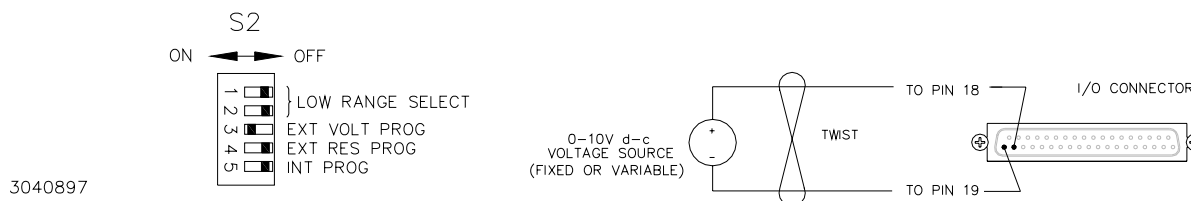

FIGURE 3-2. EXTERNAL VOLTAGE PROGRAMMING OF OUTPUT VOLTAGE
- c **External Voltage Programming:** When enabled via S2-3, this mode provides for output voltage adjustment via an external voltage source (0-10V) connected between pins 18 and 19 (VPROG, -S) of the I/O connector (see Figure 3-2). This technique is useful when implementing digital control of the power supply output voltage via a D/A converter; Kepco's SN/ SNR 488 programmers are ideally suited to these requirements